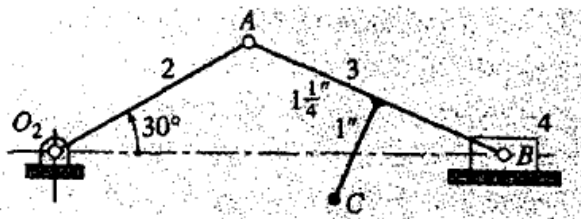

Fig.1
- b. Find the inflection circle for motion of slider crank of Fig.1 and determine the instantaneous radius of curvature of path of coupler point C. $R_{AO_2} = 2$ in. And $R_{BA} = 2.5$ in. 5